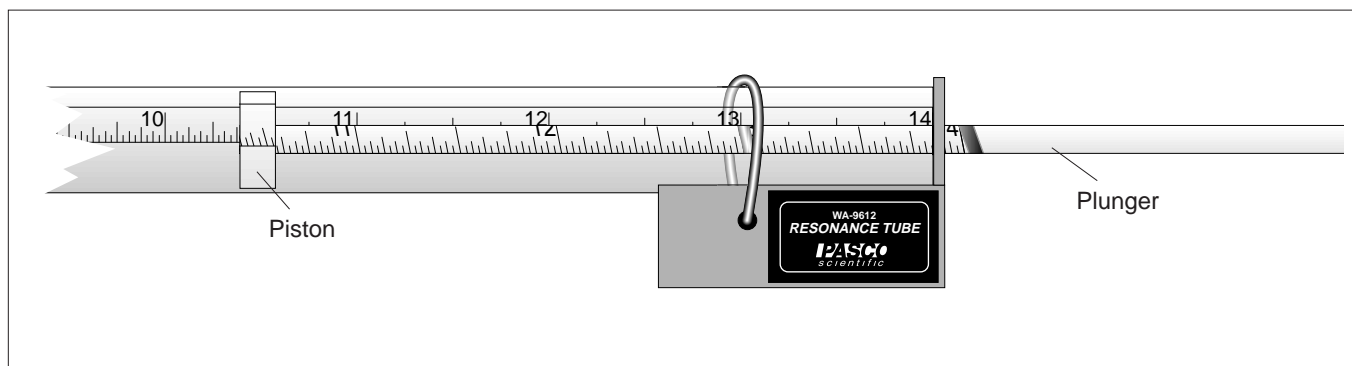

Figure 2.2 Using the Plunger
- ② Slowly increase the frequency and listen carefully. In general, the sound will become louder as you increase the frequency because the function generator and speaker are more efficient at higher frequencies. However, listen for a relative maximum in the sound level—a frequency where there is a slight decrease in the sound level as you increase the frequency slightly. This relative maximum indicates a resonance mode in the tube. Adjust the frequency carefully to find the lowest frequency at which a relative maximum occurs. (You can also find the relative maximum by watching the trace on the oscilloscope. When the signal height is a relative maximum, you have found a resonant frequency.)
- ③ Mount the microphone on the end of the probe arm and insert it into the tube through the hole in the speaker/microphone stand. As you move the microphone down the length of the tube, note the positions where the oscilloscope signal is a maximum and where it is a minimum. Record these positions in table 2.1. You will not be able to move the probe completely down the tube because the cord is too short. However, you can move the probe around to the opposite end of the tube, to examine the other end of the tube. Pay particular attention to the wave characteristics near the open end of the tube.
- ④ Repeat the above procedure for at least five different resonant frequencies and record your results on a separate sheet of paper.
- ⑤ Insert the piston into the tube, as in Figure 2.2, until it reaches the maximum point that the microphone can reach coming in from the speaker end.